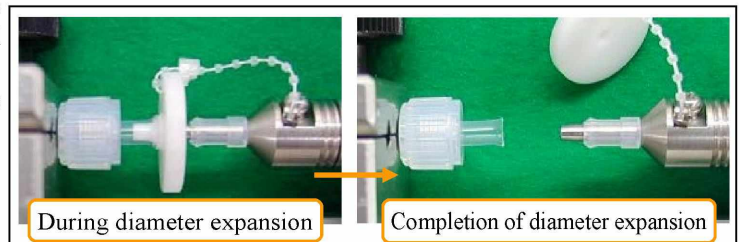

Fig. 44 - Expansion of tube diameter
- Squeeze the lever to expand the diameter of the tube end with the flare part. Repeat this step several times (see Fig. 44).